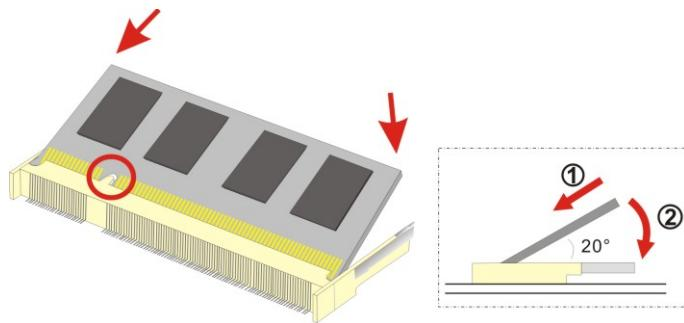

Figure 5-2: SO-DIMM Installation
Step 4: Align the new SO-DIMM with the socket. The SO-DIMM must be oriented in such a way that the notch in the middle of the SO-DIMM must be aligned with the plastic bridge in the socket (**Figure 5-2**).
Step 5: Insert the SO-DIMM. Push the SO-DIMM chip into the socket at an angle (**Figure 5-2**).
Step 6: Open the SO-DIMM socket arms. Gently pull the arms of the SO-DIMM socket out and push the rear of the SO-DIMM down (See **Figure 5-2**).